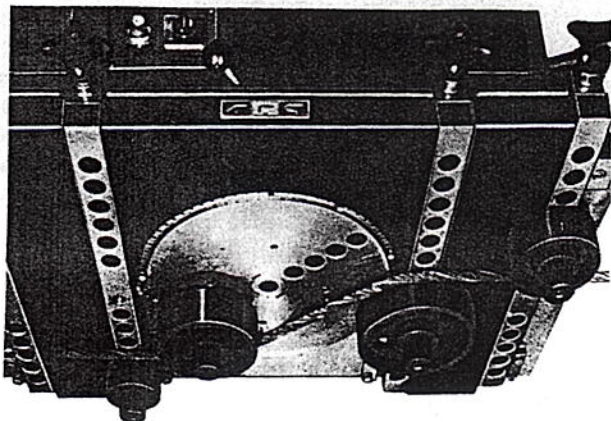
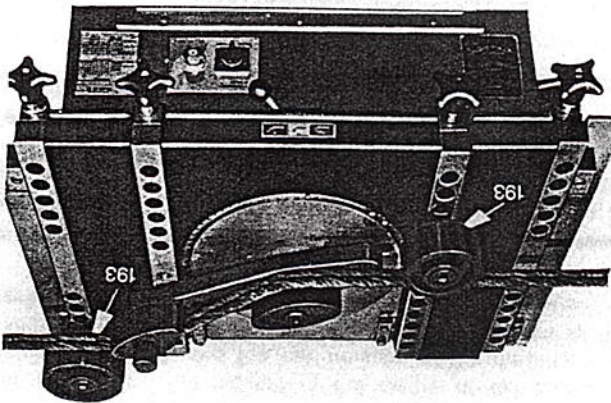

Fig. 12: Set-up for a double bend without the use of a bending arm away from the centre of the turntable
Fig. 13: Set-up for a double bend, using the bending arm, around the centre of the turntable
- Fig. 12 Assembly Drawing: Trolley - Special Equipment
- Fig. 13 Assembly Drawing: Loop bending accessories - Special Equipment
Double bends are produced by using the turntable (Fig. 12) or the bending arm (Fig. 13) available as optional equipment. Elliptical bending rolls (Fig. 13) may be employed instead of the standard bending rolls. Rolls located by means of pins inserted into the inner or outer overarm retainer bars serve as stops. Bending operations around (Fig. 13) or away from (Fig. 12) the centre of the table are possible.
The stops are infinitely adjustable to any distance between legs up to 13 3/4" without the use of the bending arm and up to 22" with the bending arm being used (optional extra). As shown by Figs. 12 and 13, the bending arm, the elliptical bending rolls and the bending rolls with pins should be fitted to the turntable and overarm retainer bars respectively.
When working with the bending arm the overarm pins below the rolls should be fitted with spacers (193) (Fig. 13).